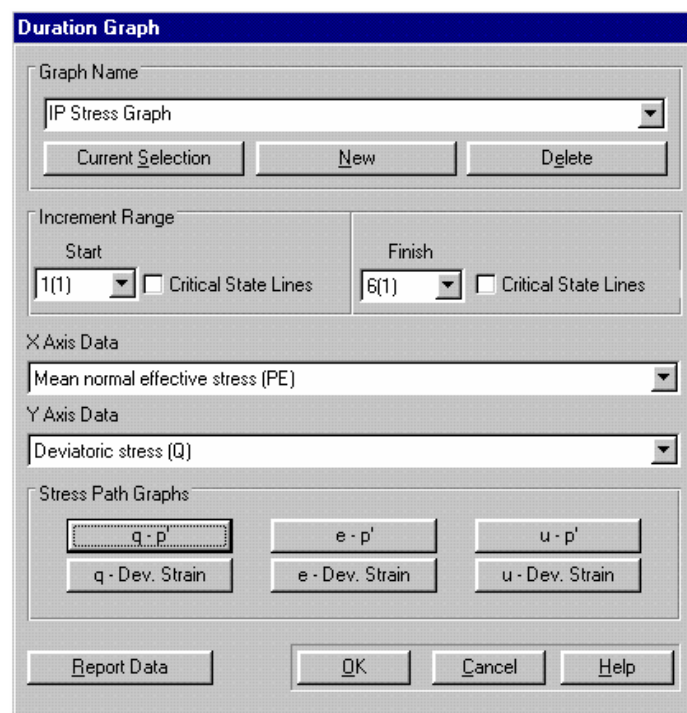

Figure 3-19 :Duration Graph dialogue box
Step 5 Click on the **q - p'** button. This automatically enters Mean Normal Effective Stress (PE) as X Axis data and Deviatoric Stress (Q) as Y Axis data. The Duration Graph dialogue box should now look like Figure 3-19.